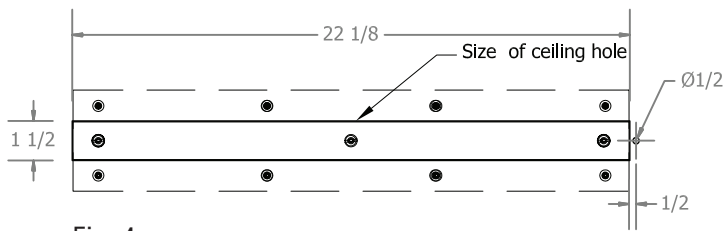
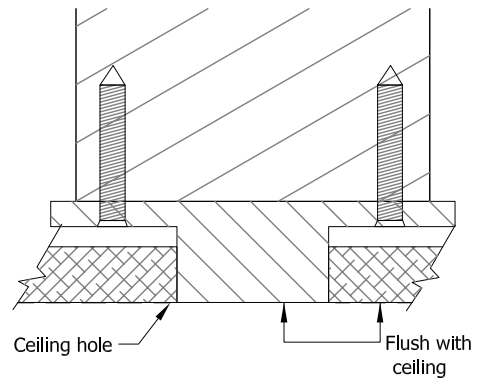

Fig. 4
Fig. 5
3. Cut a hole in the drywall ceiling to match the size of the bottom of the attachment bracket (Fig.4). The bottom of the attachment bracket should be flush with the projected ceiling height (Fig.5). Drill a 1/2" diameter hole in the ceiling aligned with the hole in the blocking. Pull the drag line thru the ceiling hole.